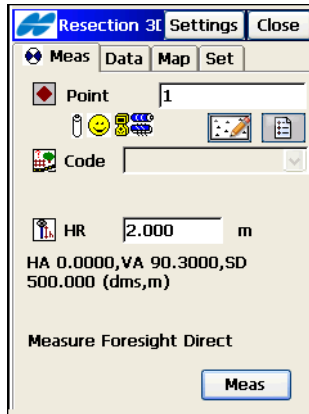

Figure 8-40. Resection
4. On the **Resection 3D** screen (Figure 8-40), select the point of known coordinates from the map or from the list.